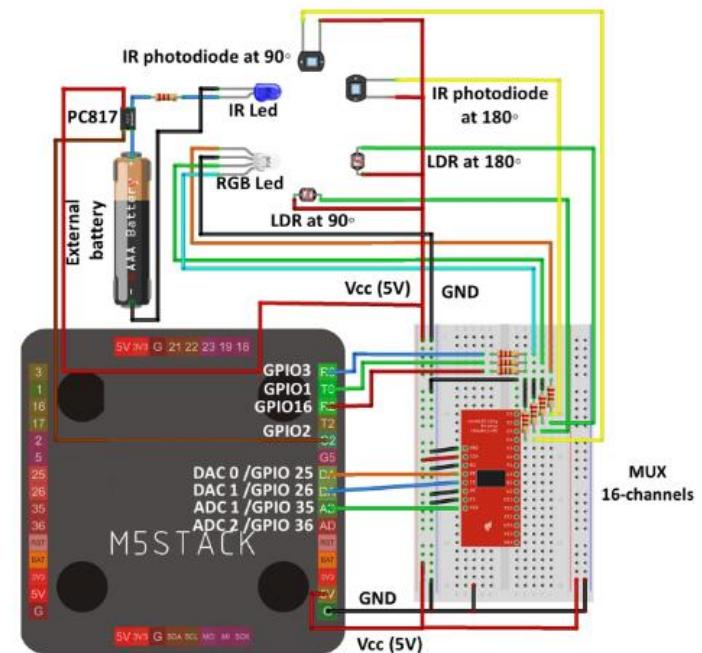

Figure 2. Electric scheme of the prototype.
Figure 2. Schematic of the transducers' positions design. Different receptor positions relative to the light source provide different electrical responses. In the image are represented the IR LED (2) and the three types of detection: backscatter (3), nephelometric (4) and transmitted light (6). The UV emitter (1) and wideband receiver (5) are also presented.
Figure 2. Illustration of the GLI-2 method, a ratiometric method based on a modulated 4-beam design. (A) Phase one: light source LED1 is on, photodetector PD2 measures the Active2 signal (90° nephelometric), and photodetector PD1 the Reference1 signal (180° attenuation). (B) Phase two: light source LED2 is on, photodetector PD2 is the Reference2 signal (180° attenuation), and photodetector PD1 is the Active1 signal (90° nephelometric).